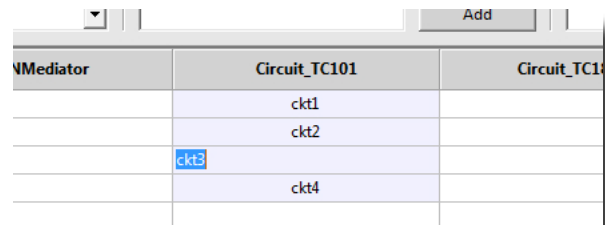

Figure 39: Plant Editor - Rename Object
3. Rename an object: Click on object cell in the grid view to switch to edit mode, and then input the new name for the object (Figure 39).